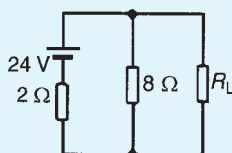

Figure 13.87
2. Determine the value of the load resistance R_L shown in Fig. 13.87 that gives maximum power dissipation and find the value of the power. [$R_L = 1.6 \Omega$, $P = 57.6 \text{ W}$]